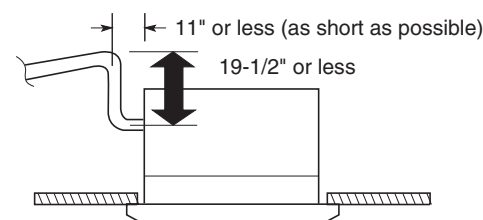

Fig. 3-9
- If it is necessary to increase the height of the drain pipe, the section directly after the connection port can be raised a maximum of 19-1/2". Do not raise it any higher than 19-1/2", as this could result in water leaks. (Fig. 3-9)